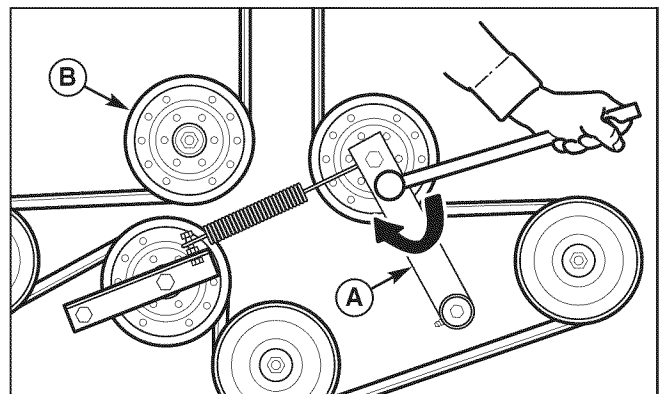

Figure 16. Mower PTO Belt
1. Using a 1/2" breaker bar, place the square end in the square hole located in the end of the idler arm (A, Figures 16). Carefully rotate the breaker bar clockwise, which will relieve the tension on the belt exerted from the idler arm.
2. Slide the drive belt over the edge of the stationary idler pulley (B). Carefully release the tension on the breaker bar. Remove the belt from the right-hand (discharge side) spindle pulley.